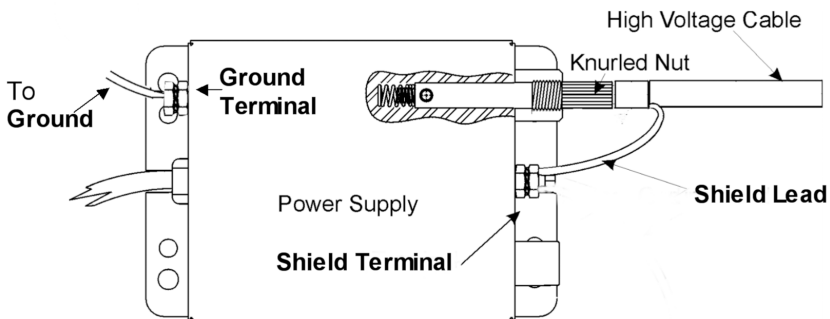

Figure 13. Installation of High Voltage Cable Assembly to TrueAC Power Supplies
2. Insert SLCC high voltage connector in female port on the power supply and finger-tighten (see **Figure 13** for TrueAC).
- For “D” remove ground wire of cable assembly from ground terminal. For TrueAC, remove shield wire of cable assembly from shield terminal (see **Figure 13**).
Short bar sensor return to ground	Make sure all bar connections comply with Figure 13 , and there are no ground connections to the Shield terminal. If all connections are correct, then replace the bar